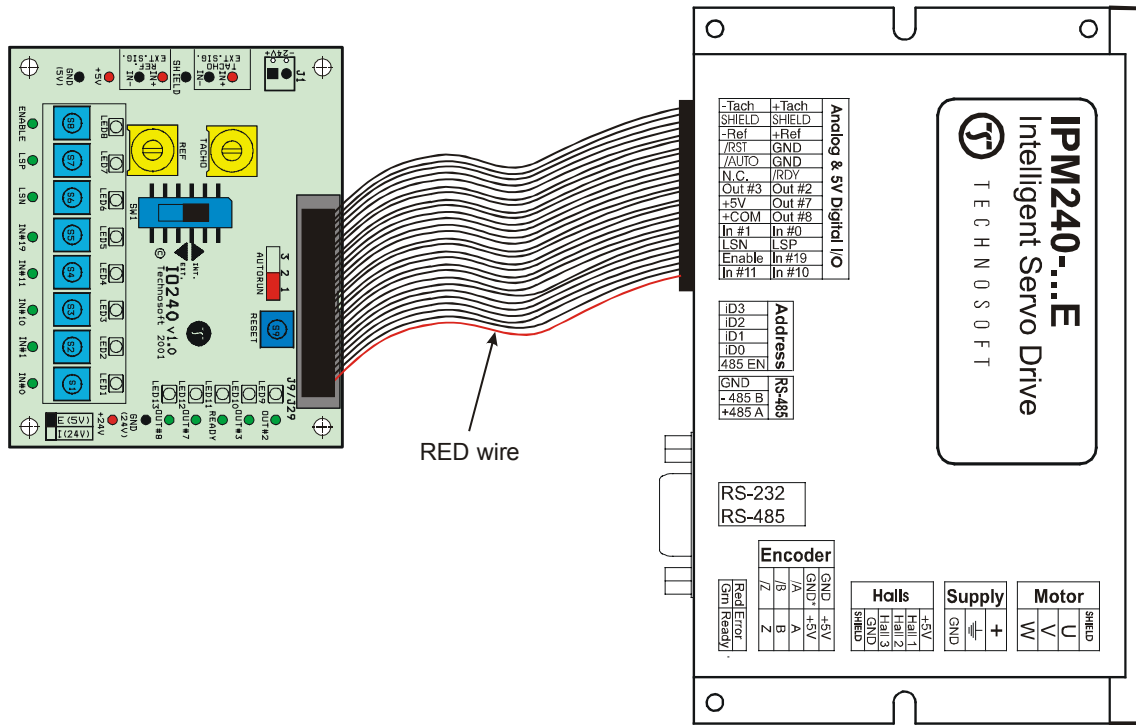

Figure 6. Connecting IO240 with IPM240 board
3. If you have also an IO240 board then please connect it to the IPM240 – 5E drive as you can see in the Figure 6